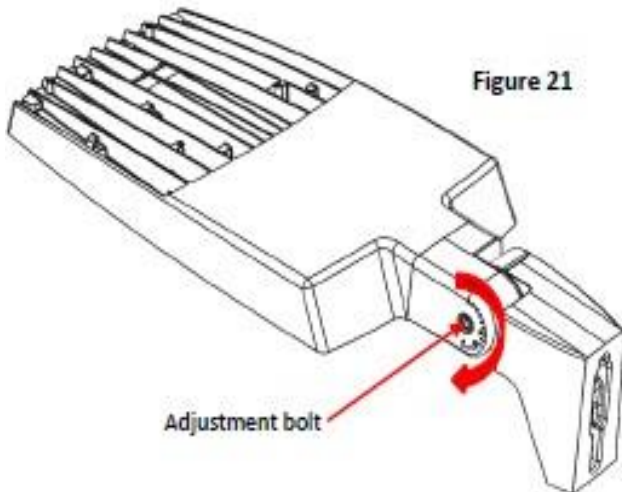

Figure 21
4. Loosen the 7/16-14 adjustment bolt, reorient luminaire as desired, up to 90°, and retighten adjustment bolt to 35-40 ft-lbs (See Fig 21). For units with photocontrol receptacle, the fixture mounting angle must be restricted per ANSI C136.10 and it is recommended to not install beyond 45° from horizontal.
6. If the luminaire aiming angle will not be adjusted, skip to the next step, otherwise loosen the 7/16-14 adjustment bolt, reorient luminaire as desired, up to 90° from horizontal, and retighten the adjustment bolt to 35-40 ft-lbs (See figure 21).